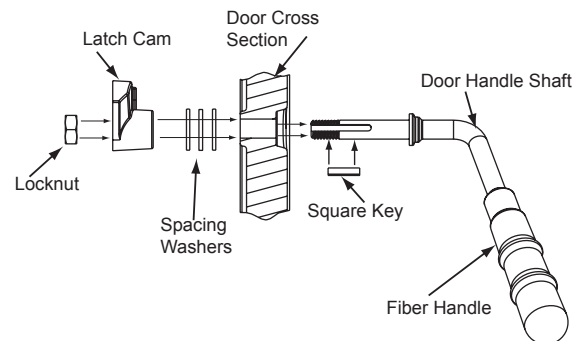

Figure 26.4 - Door Handle for Arched Door
3. Install additional washer(s) as shown in **Figure 26.4**.
7. Install handle turning in a counter-clockwise motion to desired location on door handle rod (**Figure 26.4**).